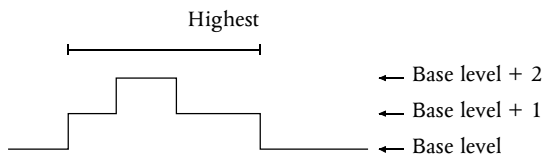

Figure 101 Multiple openings set to “Highest”
- 2 Highest. Sequences of events containing multiple openings are translated to a single level. The level number is the greatest level number in the sequence. For example, if the base level is 0, and a sequence of events makes the transitions 0, 1, 2, 1, 2, 1, 0, one level will result, with a level number of 2. *☞ Figure 101.*